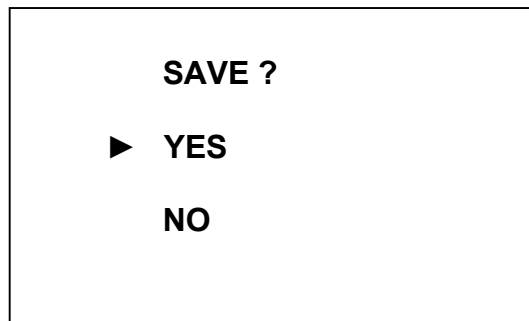

Figure 2.18
If no blinking “**CHECK ELECTRODE !**” caption appears, press the “menu” enter button. The screen as shown in Fig.2.18 will be displayed.
- If no blinking “**CHECK ELECTRODE !**” caption appears, press the “menu” button. The screen as shown in Fig.2.18 will be displayed.